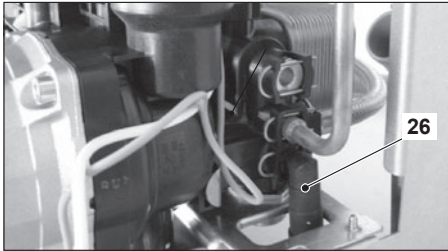

Fig. 9.4
- Open the central heating drain cock (26 in Fig. 9.4).